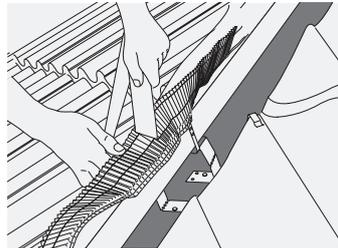

Fig. 8 – Remove backing tape
- 8 Remove backing tape covering both mastic strips from underside of the roll (Fig. 8). Press adhesive strips on both